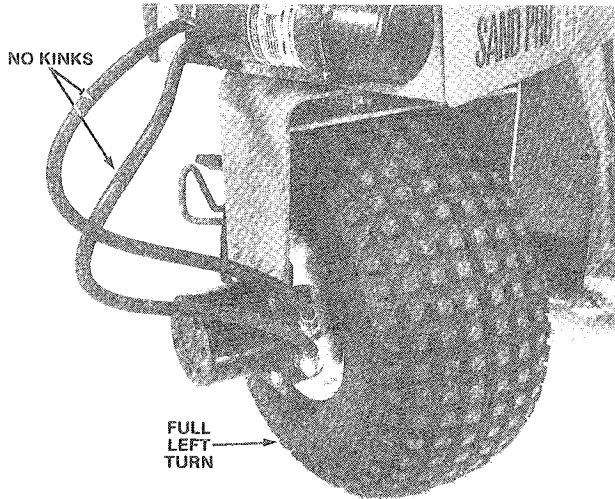

Figure 28
14. Turn front wheel to full left turn position (Fig. 28). The hoses must not kink at either the upper or lower ends. If necessary, loosen lock nuts and reposition the elbows.